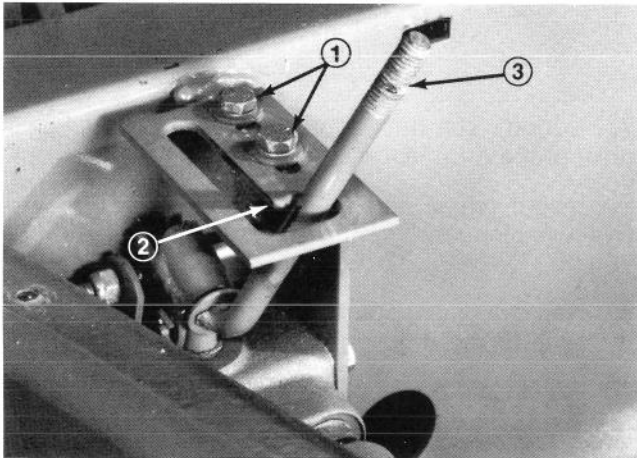

Figure 59
3. Loosen two capscrews on top of the lift lever latch (Fig. 59). Place lever on rounded tip of latch (Fig. 59), and slide latch w/lever forward until stopping resistance is felt. Then tighten capscrews to lock the latch in place. Check for free operation of the lift lever by moving lever from RAISE or TRANSPORT to FLOAT position. Lift lever should just clear rounded position of latch as lever is moved into FLOAT position.